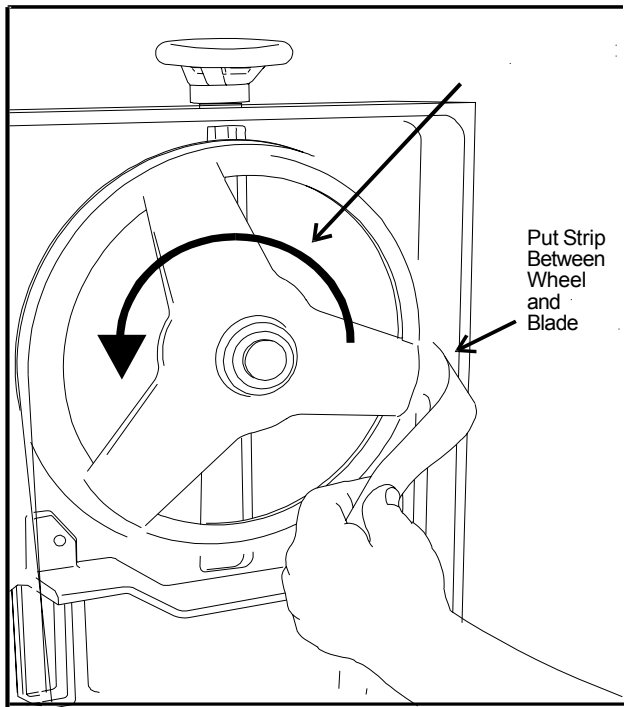

Figure 10: Blade-to-Wheel Clearance
8. Turn the adjustment pins to stop the motion of the blade on the wheel as it gets closer to the wheel shoulder. Put a 6-inch length of paper between the blade and the wheel as shown in **Figure 10**. The paper should not be cut as it passes between the wheel shoulder and blade.